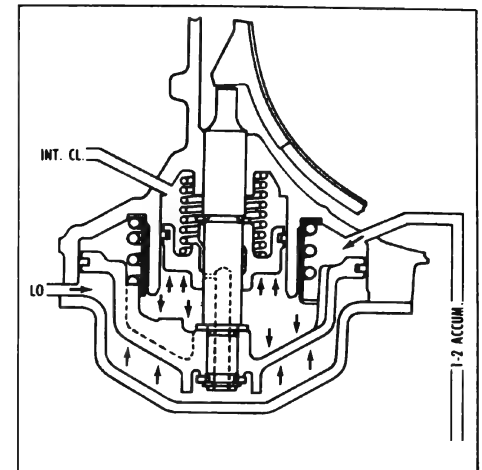

Figure 5-218
b. The accumulator piston provides the band apply force for over-run band apply in lo range first speed. See Figure 5-218.